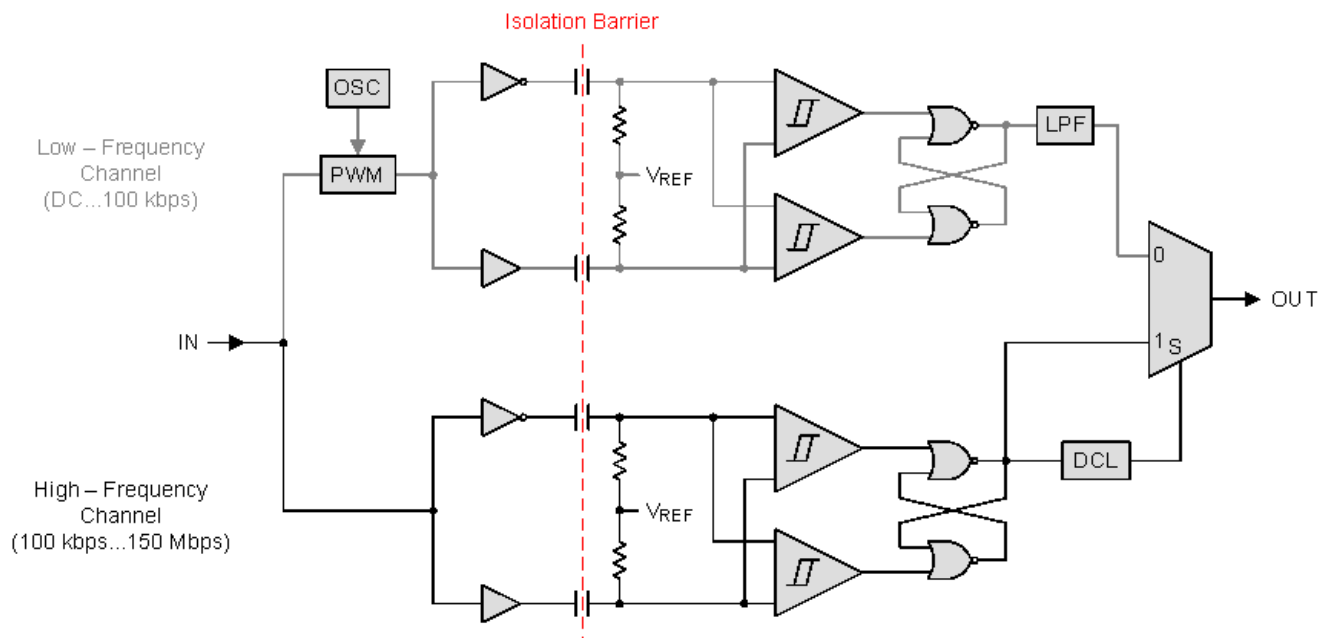

Figure 19. Conceptual Block Diagram of a Digital Capacitive Isolator
The isolator in Figure 19 is based on a capacitive isolation barrier technique. The I/O channel of the device consists of two internal data channels, a high-frequency channel (HF) with a bandwidth from 100 kbps up to 150 Mbps, and a low-frequency channel (LF) covering the range from 100 kbps down to DC. In principle, a single-ended input signal entering the HF-channel is split into a differential signal via the inverter gate at the input. The following capacitor-resistor networks differentiate the signal into transients, which then are converted into differential pulses by two comparators. The comparator outputs drive a NOR-gate flip-flop whose output feeds an output multiplexer. A decision logic (DCL) at the driving output of the flip-flop measures the durations between signal transients. If the duration between two consecutive transients exceeds a certain time limit, (as in the case of a low-frequency signal), the DCL forces the output-multiplexer to switch from the high- to the low-frequency channel.